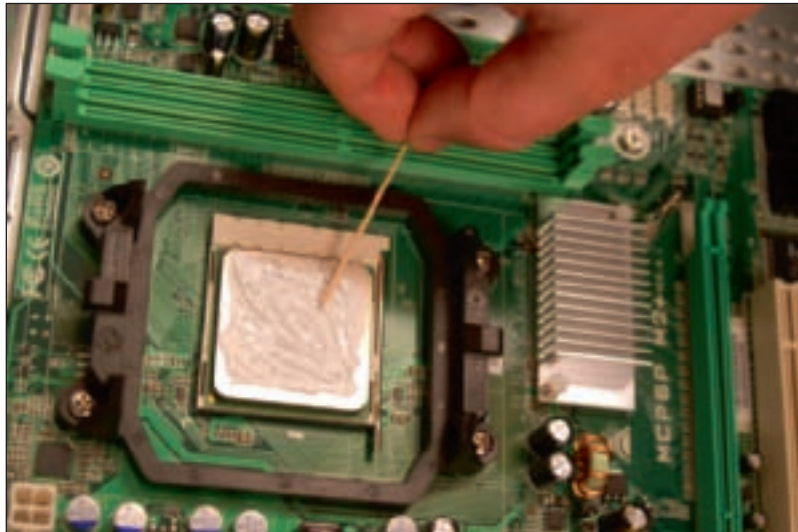

Figure 6-46 Apply a thin layer of thermal compound
6. If thermal compound is not preapplied to the bottom of the cooler, put thermal compound on the processor or the bottom of the cooler. A toothpick works well to do the job (see Figure 6-46).